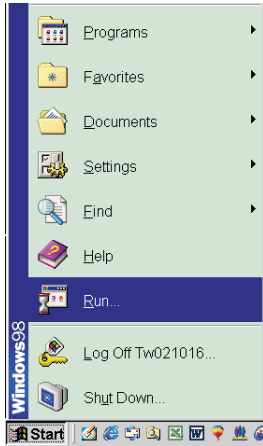

Fig. 5
2. Click "Start" choose Run at start menu of Windows as shown in Fig. 5.